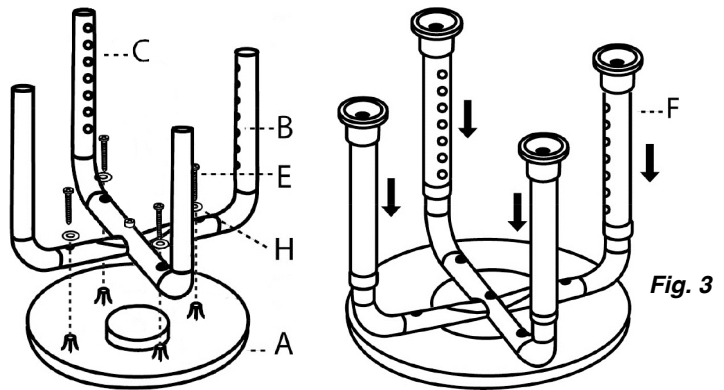

Fig. 3
3. Attach the assembled legs to the seat (fig. 3)